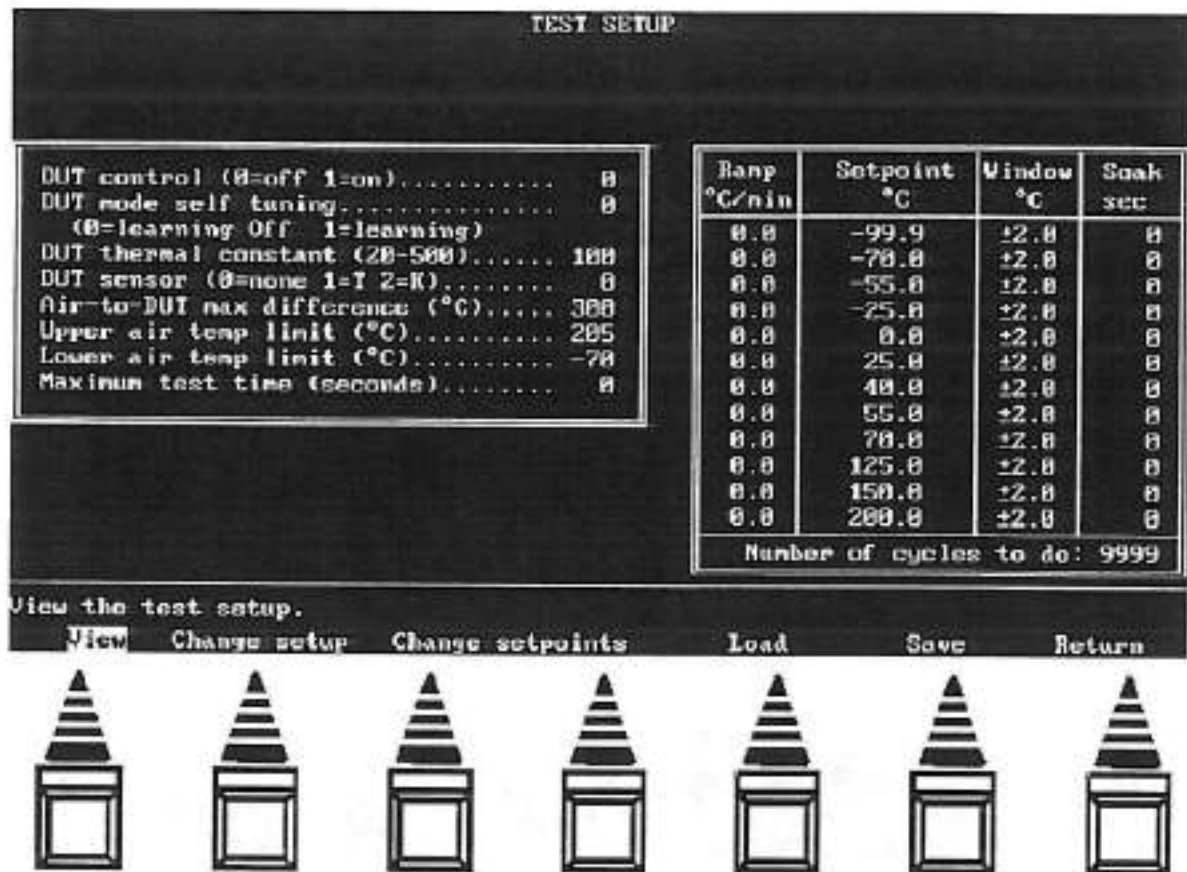

Figure 3-18. V.S. Change Setup Screen
In the Variable Setup Mode, up to 12 programmed test setup files can be stored in the TP04010A. Each test setup file contains the system setup parameters and temperature setpoint parameters to allow a DUT to be tested over a ramp/cycle sequence of up to 12 setpoints. Different test setup files are programmed through the *V.S. Change Setup Screen* (see Figure 3-18). This figure shows the default parameters as programmed by the factory. From this base, or later test setup files, a new file can be programmed by changing the system setup parameters and the temperature setpoint parameters for a particular test. This combination of parameters is then saved (stored in memory) with a unique setup number from 1 through 12 on the *V.S. Save Setup Screen* (Figure 3-19). Any one of the up to 12 setup files can be selected and loaded from the *V.S. Load Setup Screen* (Figure 3-20) for controlling the TP04010A.
The selections at the bottom of the *V.S. Change Setup Screen* (see Figure 3-18) are summarized below. Press the OCM function key directly below a desired selection to activate it.
1. Select the **Change setup** function on the *V.S. Change Setup Screen* (refer to Figure 3-18) with the OCM function key to activate.
3. Check that the **DUT control** is set for the desired type, air (0) or direct DUT control (1). If direct DUT control is chosen, make sure the proper **DUT sensor** is selected, (1) or (2). A new DUT sensor should be calibrated (refer to Sec. 6) before use. Also, for direct DUT control.
1. Select the **Change setpoints** function on the *V.S. Change Setup Screen* (refer to Figure 3-18) with the OCM function key to activate.
1. Select the **Load** function on the *V.S. Change Setup Screen* (refer to Figure 3-18) with the OCM function key to access the *V.S. Load Setup Screen* (see Figure 3-20).